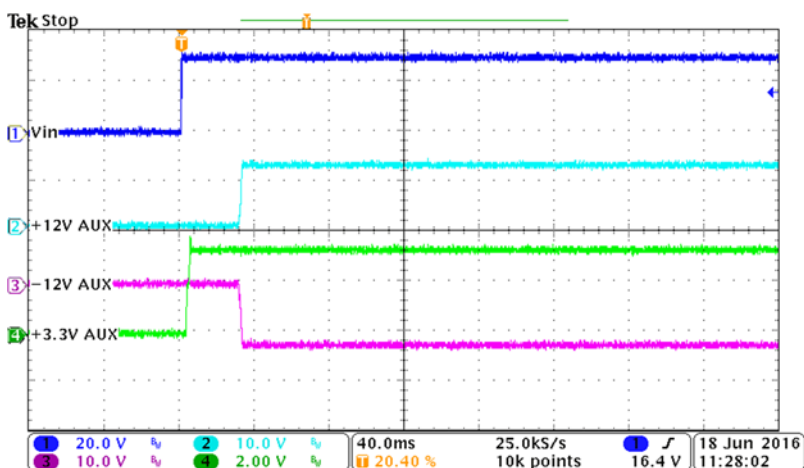

**Figure 1:** Connection Diagram for Parallel Operation of +5 V Output
Both main outputs (+5V/80A and +3.3V/15A) of Behlman’s VPXtra™500M1 series power supplies can be paralleled for higher output power and redundancy with one or more VPXtra™500M series power supplies. See Figure 1 below for connections required.
- Figure 1 Shows typical connection diagram for parallel operation of +5V output similar connections shall be made to parallel the +3.3V output